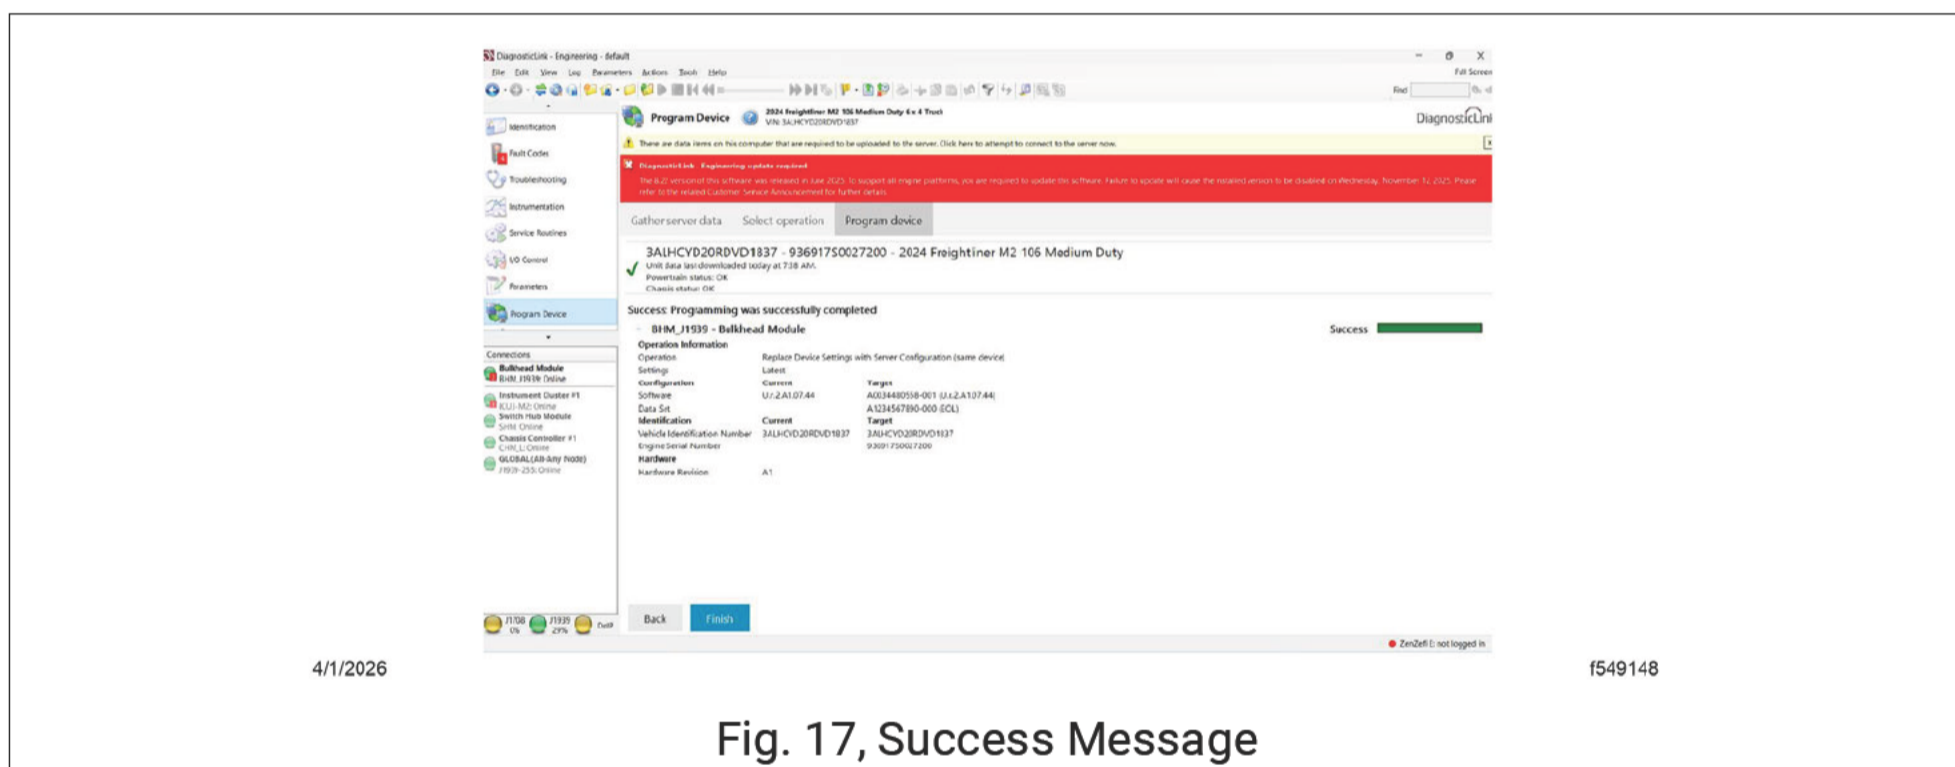

Fig. 17, Success Message
25. A success message displays when flashing is completed. See Fig. 17.